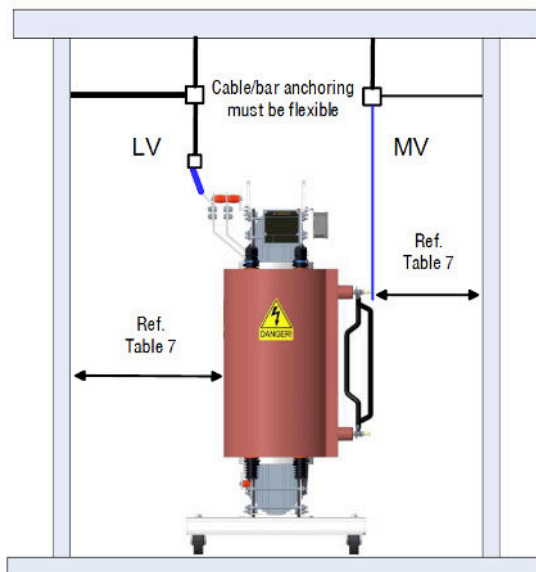
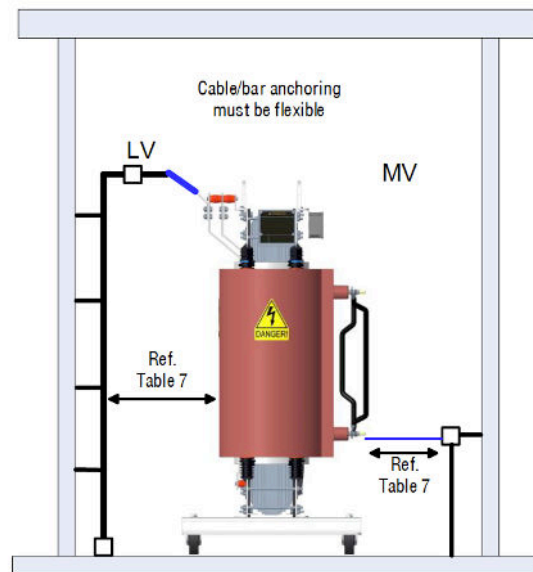

Figure 25: Upper MV/LV connection.
Figure 26: Lower MV/LV connection.
**The cables and/or busbars must be firmly secured to the terminals of the transformer in order to avoid any mechanical strain on the terminals: this may compromise the correct operation of your transformer.** The connections to the LV and MV terminals of the transformer can be made both from above and below (see Figure 25 and Figure 26). SEA provides standard terminals with MV output below and LV output above; any variations in the positioning of the terminals must be communicated when placing the order. When making the connection, a certain clearance must be maintained between the cables and the energized parts of the transformer, as indicated in Table 10.